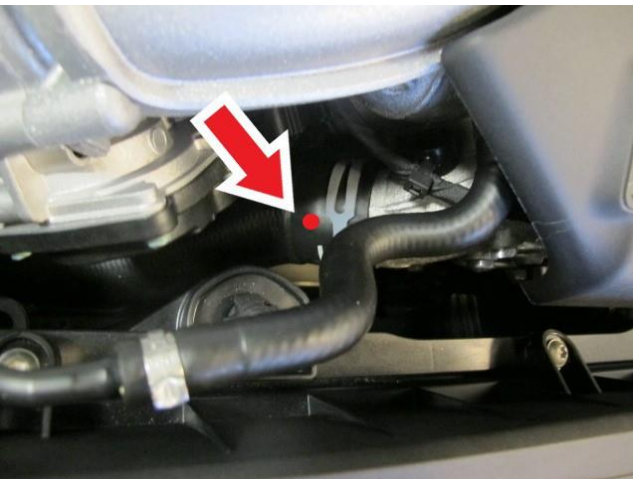

Figure 5
8) Apply a red paint completion mark on the radiator top hose (Figure 5)
Red paint completion mark on the radiator top hose confirms the initial fan operation check and the software update were both conducted (Figure 5)